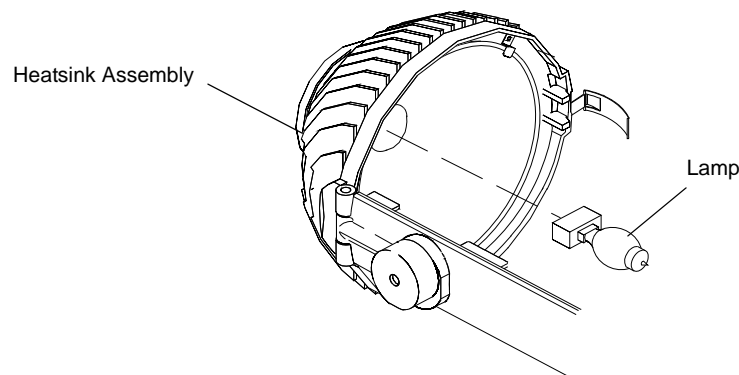

Figure 2-3: VL5/VL5B Lamp Replacement
Step 2. Unlatch and swing open heatsink assembly. **Figure 2-3.**